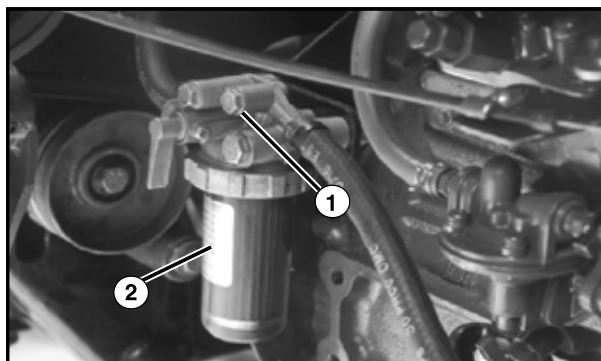

Figure 9.15.1
2. Open the air vent on top of the fuel filter (See Fig. 9.15.1).